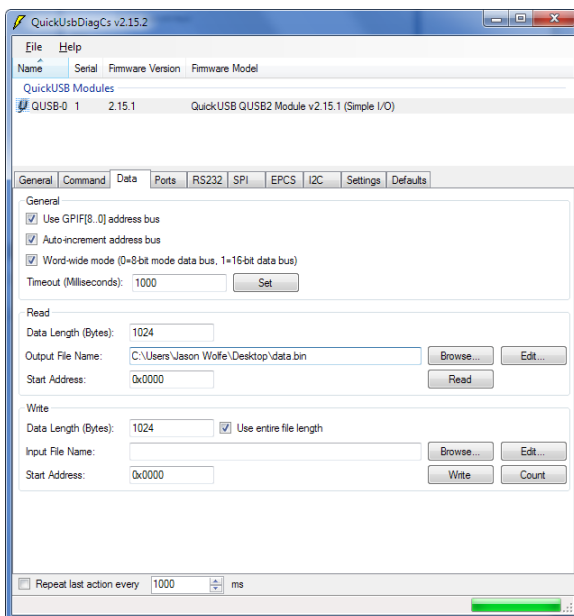

Figure 5 – QuickUSB Diagnostics “Data” Tab
- a. Click on the “Data” tab as shown in Figure 5
- a. Click on the “Data” tab (see Figure 5)